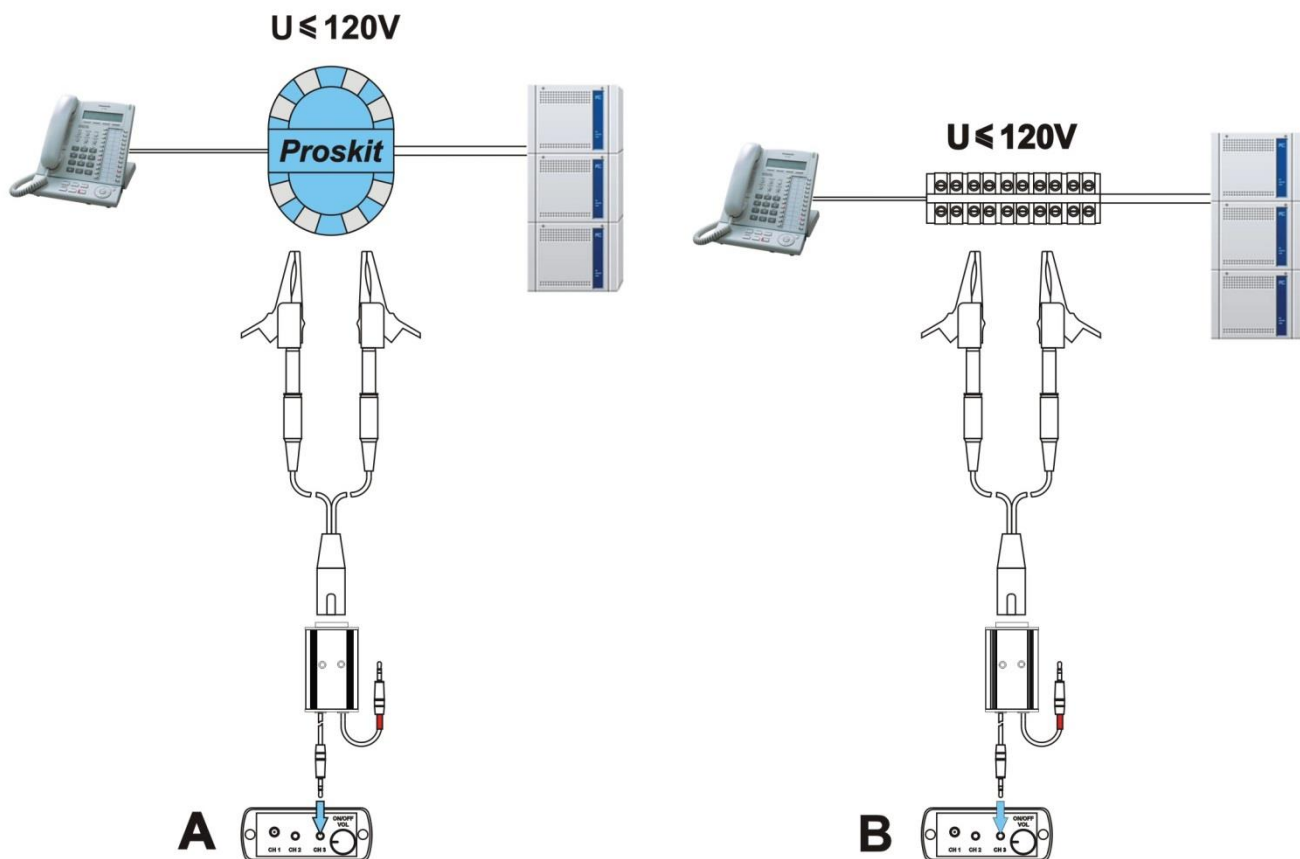

Figure 33
Connect the BWLC031M adapter to the main unit (CH3) and tested line, as shown in Figure 33. When testing telephone lines, computer networks or other conductive lines, with RJ45 connectors, it is recommended to use a special adapter for connecting multi wires pos.17 (Figure 4) (connection option A Figure 33). When connected to a line in the distribution boxes it is comfortable to use convenient connecting cable item pos.12 and clamps pos.9 (Figure 4) (connecting option B Fig.33).